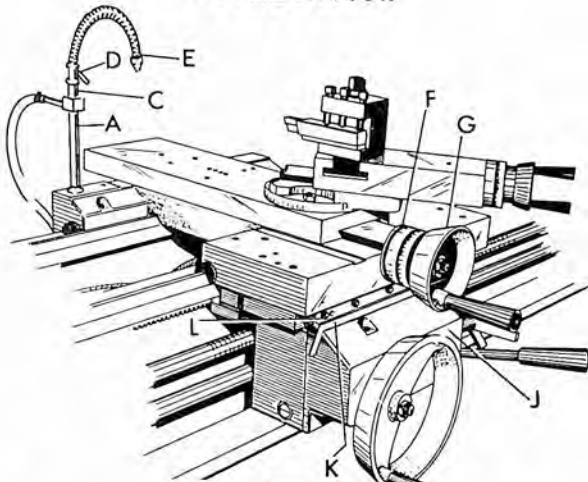
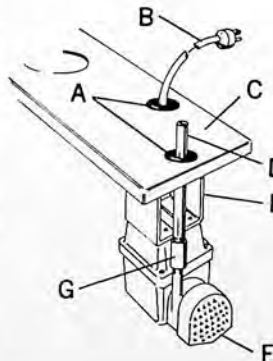

Figure 1
Figure 2
1. Install O-ring (F, Fig. 1) on cross feed hub (G)- (stretch O-ring and slip over cross slide handwheel).
2. Remove top four capscrews from apron cover (J).
3. Install coolant guard assembly (K) with four 1/4-20 x 5/8 button head capscrews (L).
4. Install nozzle mount assembly (A) in tapped hole in saddle wing.
5. Screw fittings (C and D) into mount. Screw valve (D) on fitting (C) and flexible nozzle (E) into valve (D).
6. Install pump (F, Fig. 2) on cover bracket (E) with two #8-32 x 1/2 screws and shakeproof washers.